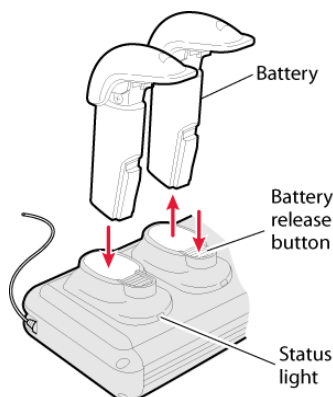

Figure 2. Scan handle dual battery charger
2. Insert one or two batteries into a slot in the charger (Figure 2).